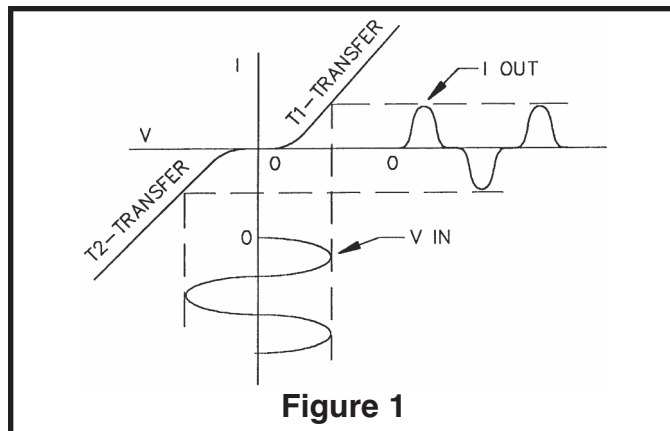

Figure 1
0.785 or 78.5%. Since transistor characteristics are not ideal in a pure class B amplifier, the transistors will introduce crossover distortion. This is due to the non-linear transfer curve near zero current or cutoff. This type distortion is shown in Figure 1. In order to illuminate crossover distortion and maximize efficiency, the output transistors of the audio amplifier are biased on for slightly more than 1/2 of the cycle, known as class AB. In other words, the transistors are working as class A amplifiers for very small levels of power to the speaker, but they side toward class B operation at larger power levels.